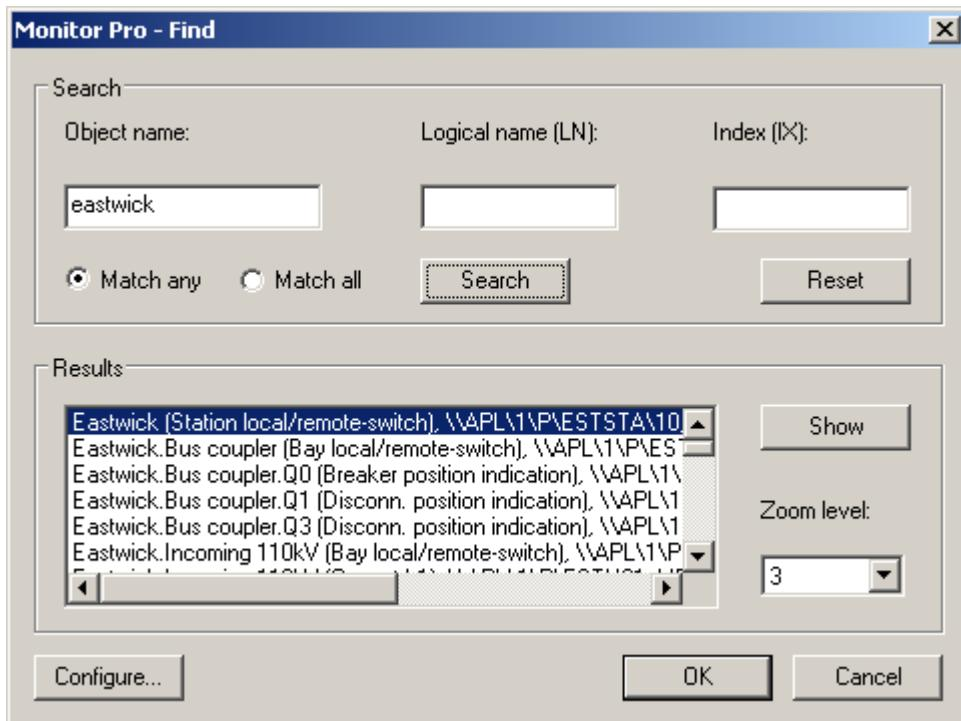

Figure 26: Find process objects
Searches can be made using the **Object name**, or part of it, the **Logical name (LN)** or **Index (IX)**. Select the required object from the search result and *click Show* to display. To change the zoom level, *select the value from Zoom level*, then *click Show* to display the object, see Figure 26.